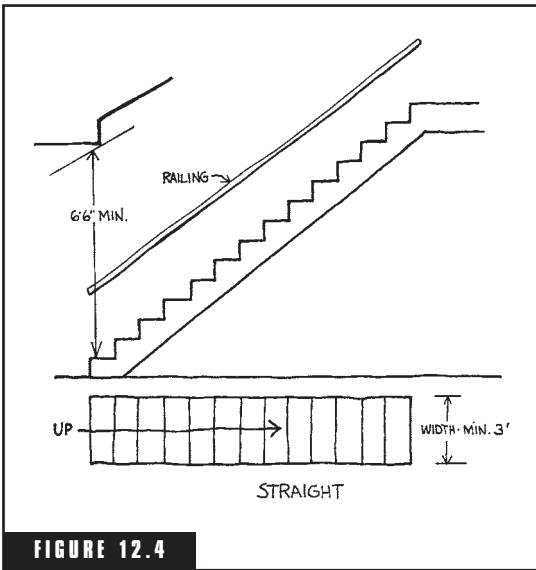

FIGURE 12.4
3. *Stairway widths.* Main stairways should be at least 3 feet wide, clear of the handrail(s) (Fig. 12.4). A basement stairway can be slightly narrower, with a minimum clearance of 2 feet 10 inches.